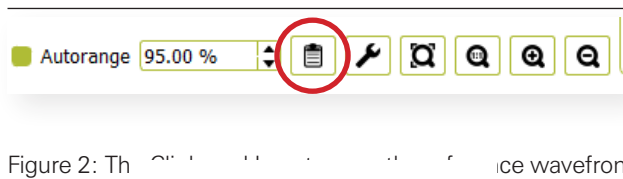

Figure 2: The Clipboard icon to save the reference wavefront
2. Click the clipboard icon (Figure 2), name the reference file (in this case called "CavityRef") (Figure 3) and save it.